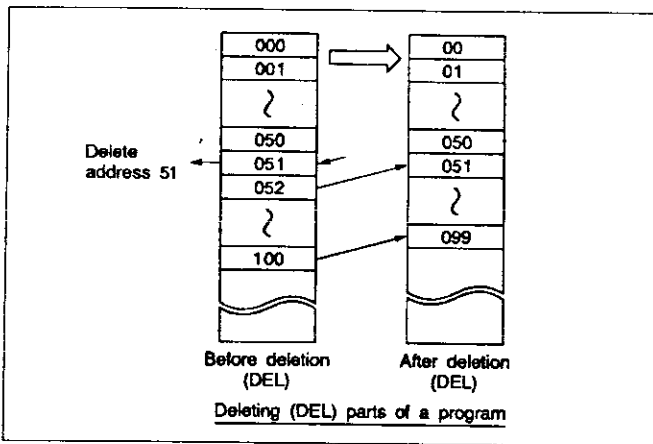

Figure 14.12
e. If addresses are inserted into or deleted from the program memory, the address numbers of all other statements are shifted automatically either up or down (see figures 14.12 and 14.13).